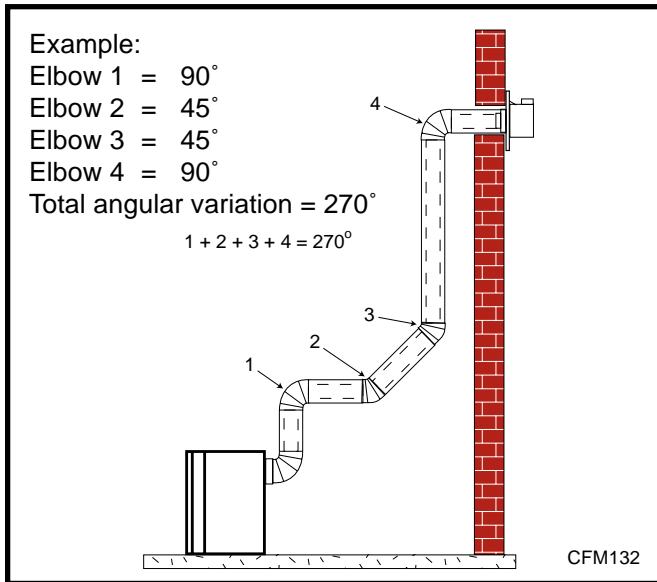

Fig. 21 Maximum number of elbows.
Example: According to the chart the maximum horizontal vent length in a system with a 7.5' (2.3m) vertical rise is 20' (6 m) and if a 90° elbow is required in the horizontal vent it must be reduced to 17' (5.2 m). In Figure 21 Dimension A plus B must not be greater than 17' (5.2 m).
- The maximum number of 45° elbows permitted per side wall installation is two (2). These elbows can be installed in either the vertical or horizontal run.
- The maximum number of elbow degrees in a system is 270°. (Fig. 21)